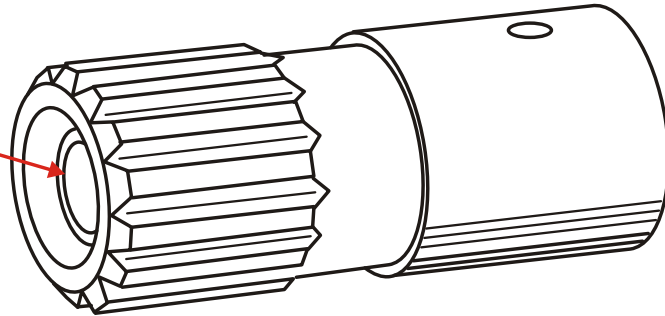

Figure 3
3. Inspect the output shaft bushing where turbine shaft rides (*Refer to Figure 3*). Insert the turbine shaft into the output shaft and move the turbine shaft from side to side. If excess movement is detected, replace the output shaft bushing.